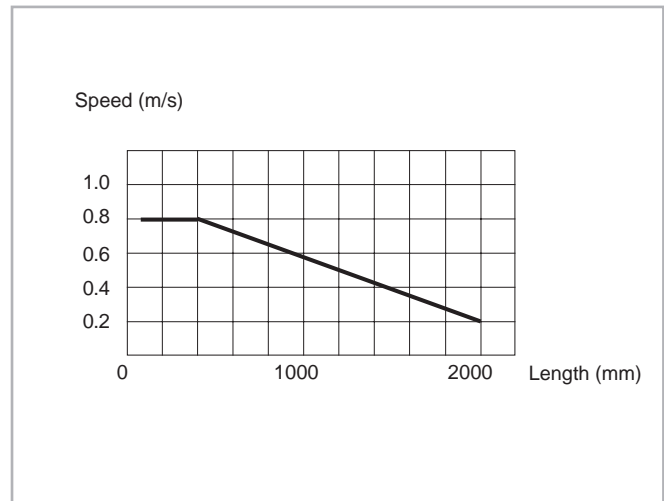

Fig. 72
The maximum operating speed is determined by the mass of the intermediate element, which moves with the movable rail. This reduces the maximum permissible operating speed with increasing length (see fig. 72).
- Telescopic Rail guides are suitable for continuous use in automatic systems. For this, the stroke should remain constant in all moving cycles and the operating speed must be checked (see pg. TR-42, fig. 72). The movement of the telescopic rails is enabled by internal ballcages, which could experience an offset from the original position with differing strokes. This phase offset can have a negative effect on the running properties or limit the stroke. If differing strokes occur in an application, the drive force must be sufficiently dimensioned in order to appropriately synchronise the ballcage offset. Otherwise, an additional maximum stroke must be planned regularly to ensure the correct position of the ballcage.